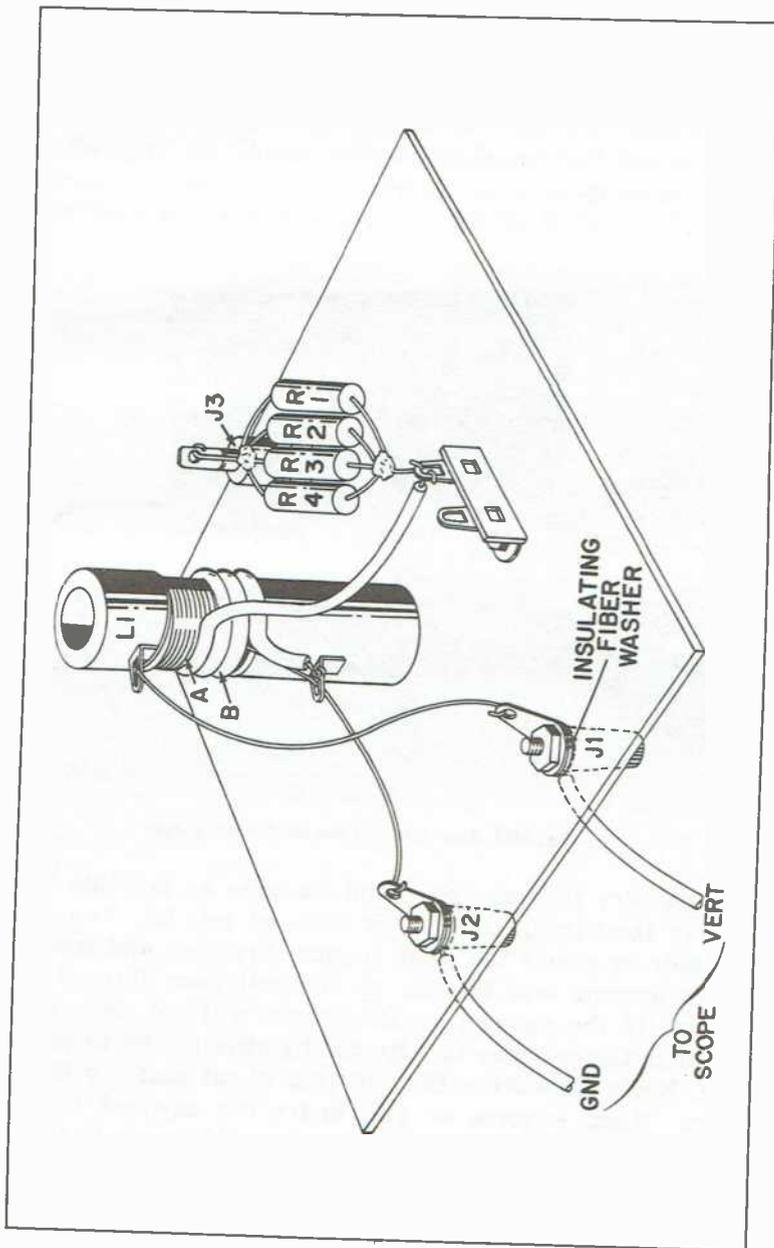

Fig. 13-3. Pictorial diagram of the CB scope adapter.
The major part of assembly is winding coil L1. The large winding (A) consists of seven turns of No. 20 enamel-covered wire. Scrape off the enamel on one end of the wire and solder it to the coil terminal closest to the front panel. The turns may be started in either direction, but be sure to space them out a turn apart (one wire diameter). Clean off the enamel at the end of the winding and solder the wire to the remaining coil terminal. The other winding (B) is simply a length of plastic-insulated hookup wire wound three times over the lower end of the first winding (Fig. 13-3). The turns in this case should touch each other. Shown in Fig. 13-4 is the rear of the completed front panel.